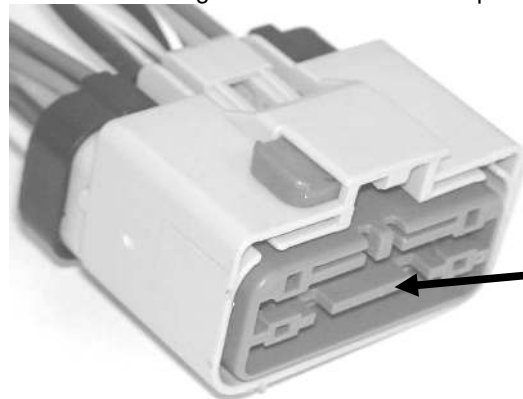

Figure 2
1. If this is a gravity plow we will need to modify the supplied harness. Remove the blue secondary lock within the 14 pin connector. See figure 2. If this is a down pressure plow proceed to step 9.